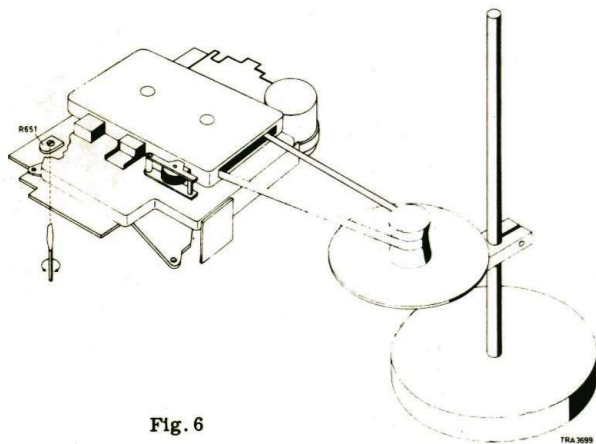

Fig. 6
2. With stroboscopic disc (Fig. 6)
Remove one of the sides of a cassette (by means of a knife and a file). Debur the opening. Take out the tape via the opening. Place a stroboscopic disc (code number 4822 395 90001 for 50 Hz or 4822 395 90002 for 60 Hz) next to the set and connect as shown in Fig. 6.
If the speed is too low, check that there is not too much friction in the pressure roller, the winding friction, the flywheel, etc. After that, adjust the speed with R651 (see Fig. 6).